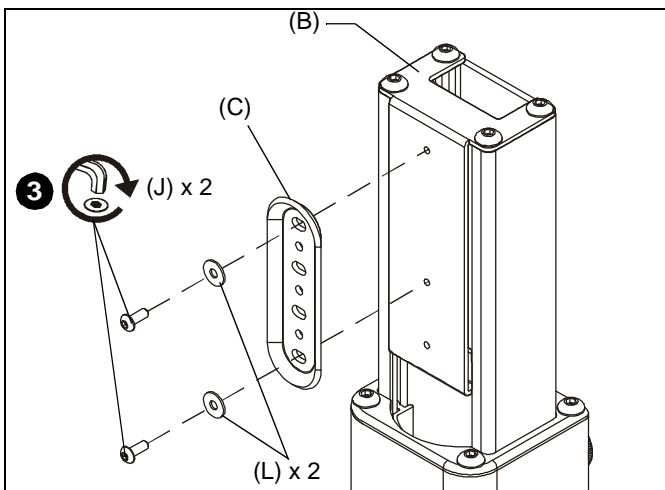

Figure 2
3. Attach assembly bracket (C) to cart/stand bracket (B) using two 10-24 x 1/2" button head cap screws (J) and two #10 flat washers (L) through the top two holes in the assembly bracket. (See Figure 2)